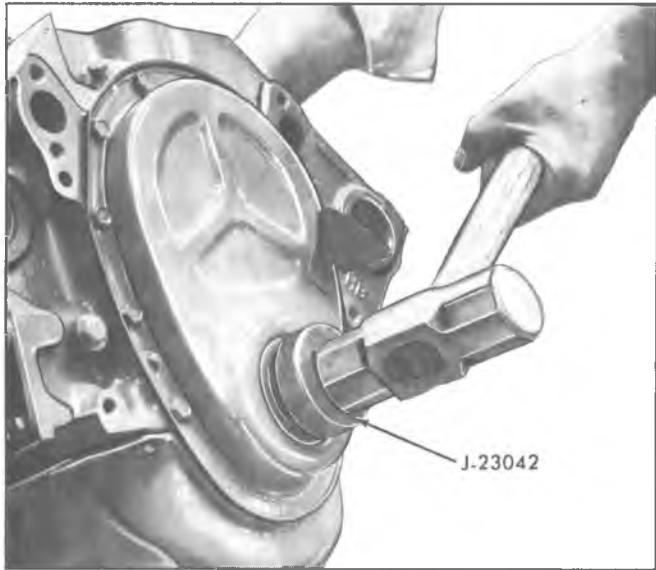

Fig. 23L—Installing Oil Seal (Cover Installed)
- Install new seal so that open end of seal is toward the inside of cover and drive it into position with Tool J-23042 (fig. 23L).